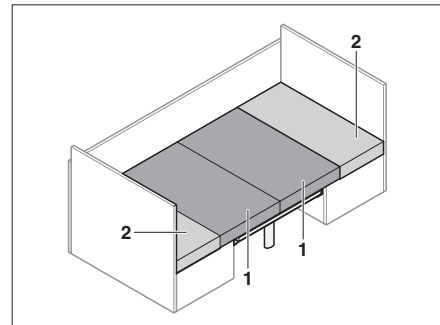

Fig. 65 After conversion
- Pull the seat cushions (Fig. 65,1) into the centre.
- Insert the back cushions (Fig. 65,2) between the seat cushions and the wall.